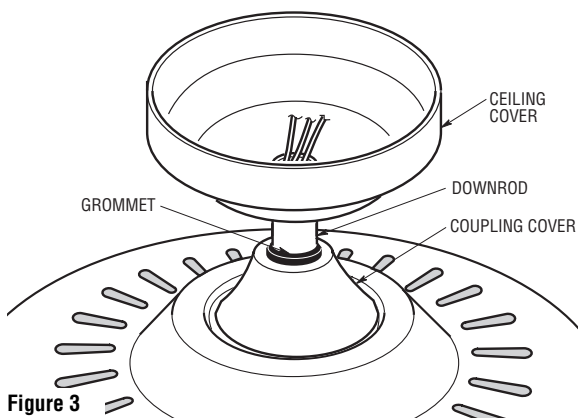

Figure 3
4. Make sure the grommet is properly installed in the coupler cover, then slide the coupler cover on the downrod until it rests on the motor housing (Figure 3).